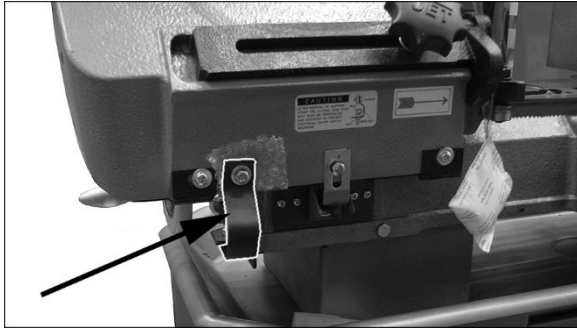

Figure 6-4: shipping bracket removal
- Remove shipping bracket (Figure 6-4). Then reinstall bottom hex nut beneath plate. Retain shipping bracket in case machine must be transported in future.